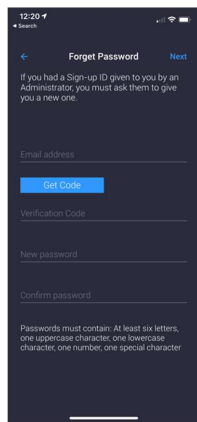

Figure 45: Get Code
3. Enter your email address and select **Get Code** (Figure 45).